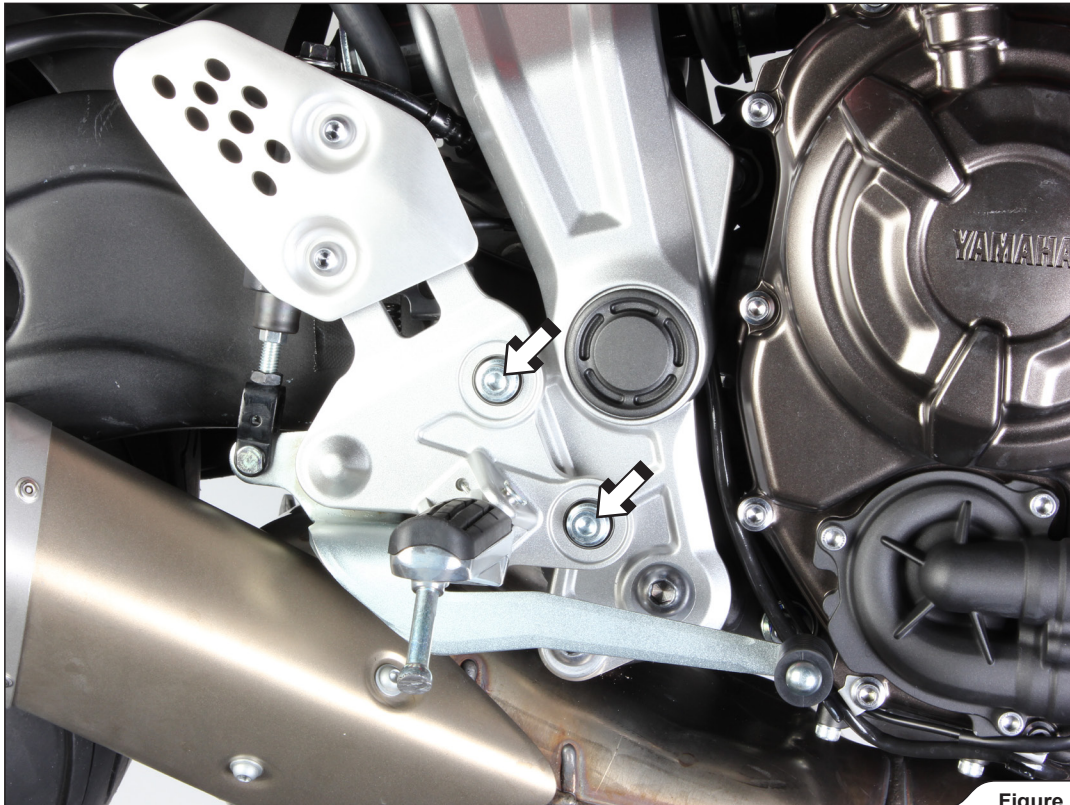

Figure 1
2. Unscrew the marked right footrest bolts, lambda sensor, headers' flange nuts, muffler's bolts and carefully remove the stock exhaust system off the motorcycle (**Figure 1, 2, 3, 4, 5**).